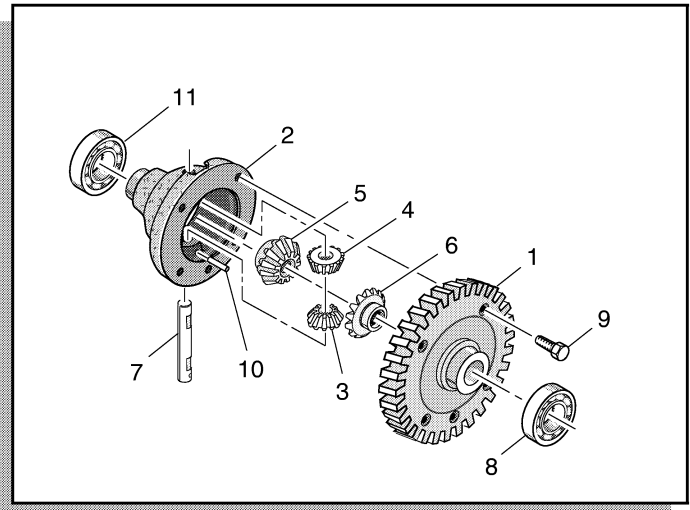

Fig. B-9 Differential Carrier Inspection
1. **Inspect the differential carrier assembly (Ref Fig. B-9 on page B-6).**
- A. Make sure that the ring gear (1) is properly positioned and fastened securely to the carrier housing (2).
- D. Check the pinion gear shaft (7) and pinion gears for proper close fit. Gears should spin evenly on the shaft without “play” or wobbling.
2. **If necessary, disassemble the differential carrier assembly (Ref Fig. B-9 on page B-6).**